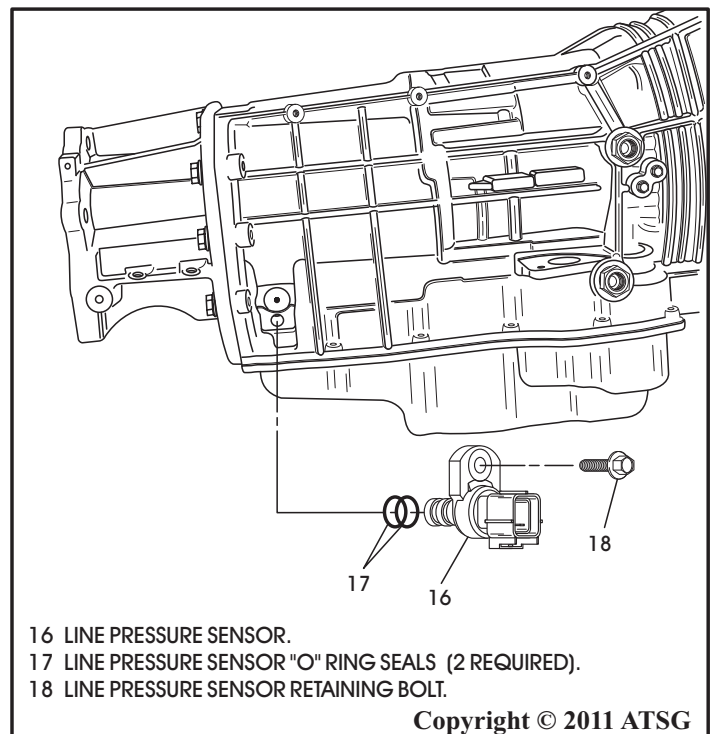

Figure 167
55. Install two new "O" ring seals on line pressure sensor & lube with small amount of Trans-Jel®, as shown in Figure 167.
56. Install line pressure sensor into the case bore, as shown in Figure 167, and torque the retaining bolt to 12 N·m (105 in.lb.).